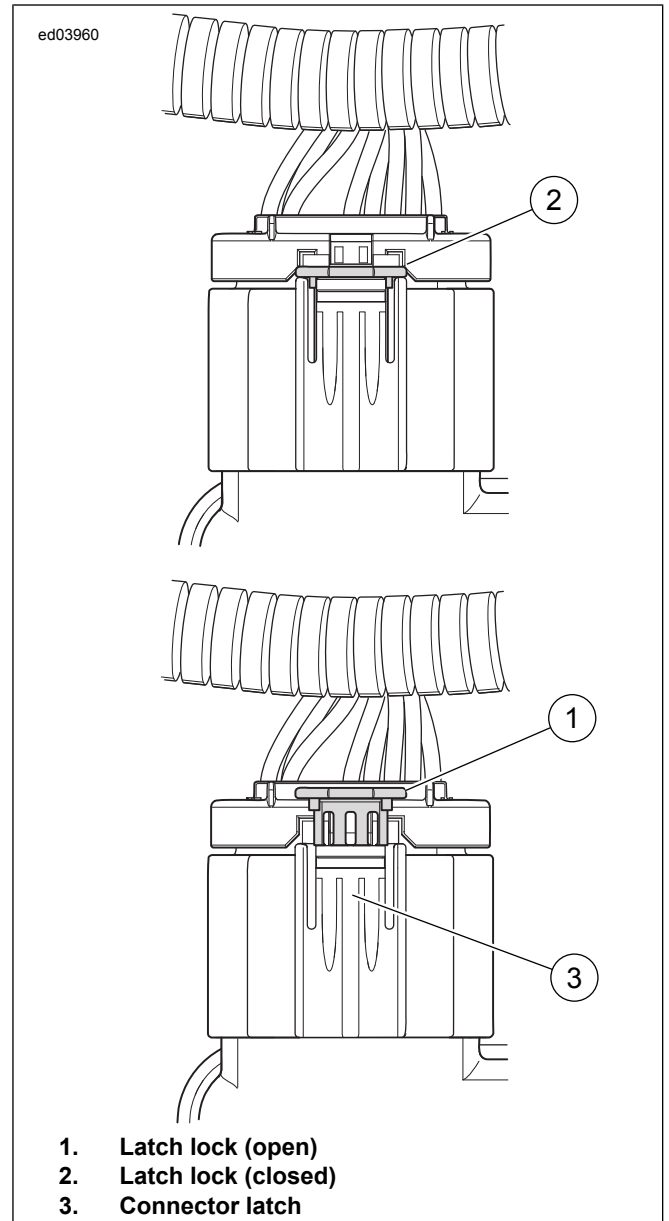

Figure B-42. Tyco GET 64 Sealed Connector Latch and Lock
1. See Figure B-42. Pull the latch lock open.